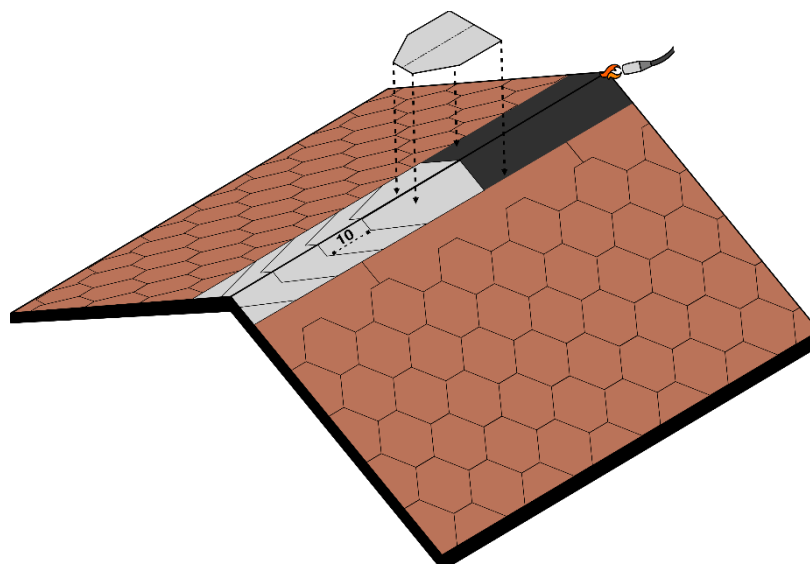

Fig. 19 – Ridge elements installation by torch
- Apply a band of bituminous membrane Safety EPP, about 25cm wide on the ridge by torch – Fig. 19.
- Proceed with the installation of the other ridge elements in sequence, leaving an exposed part of 10cm between one element and the next, see Fig. 19